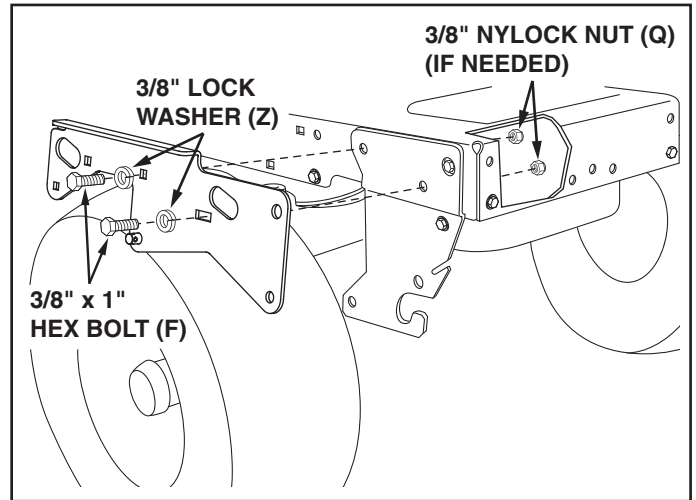

FIGURE 6
STEP 6: (SEE FIGURE 6)
- Fasten the R.H. side plate (bend facing out) to the two holes indicated in the tractor frame. Use two 3/8" x 1" hex bolts (F) and 3/8" lock washers (Z). If the bolts insert loosely into the tractor frame, use two 3/8" nylock nuts (Q) on the inside of the frame. Repeat for the L.H. side.